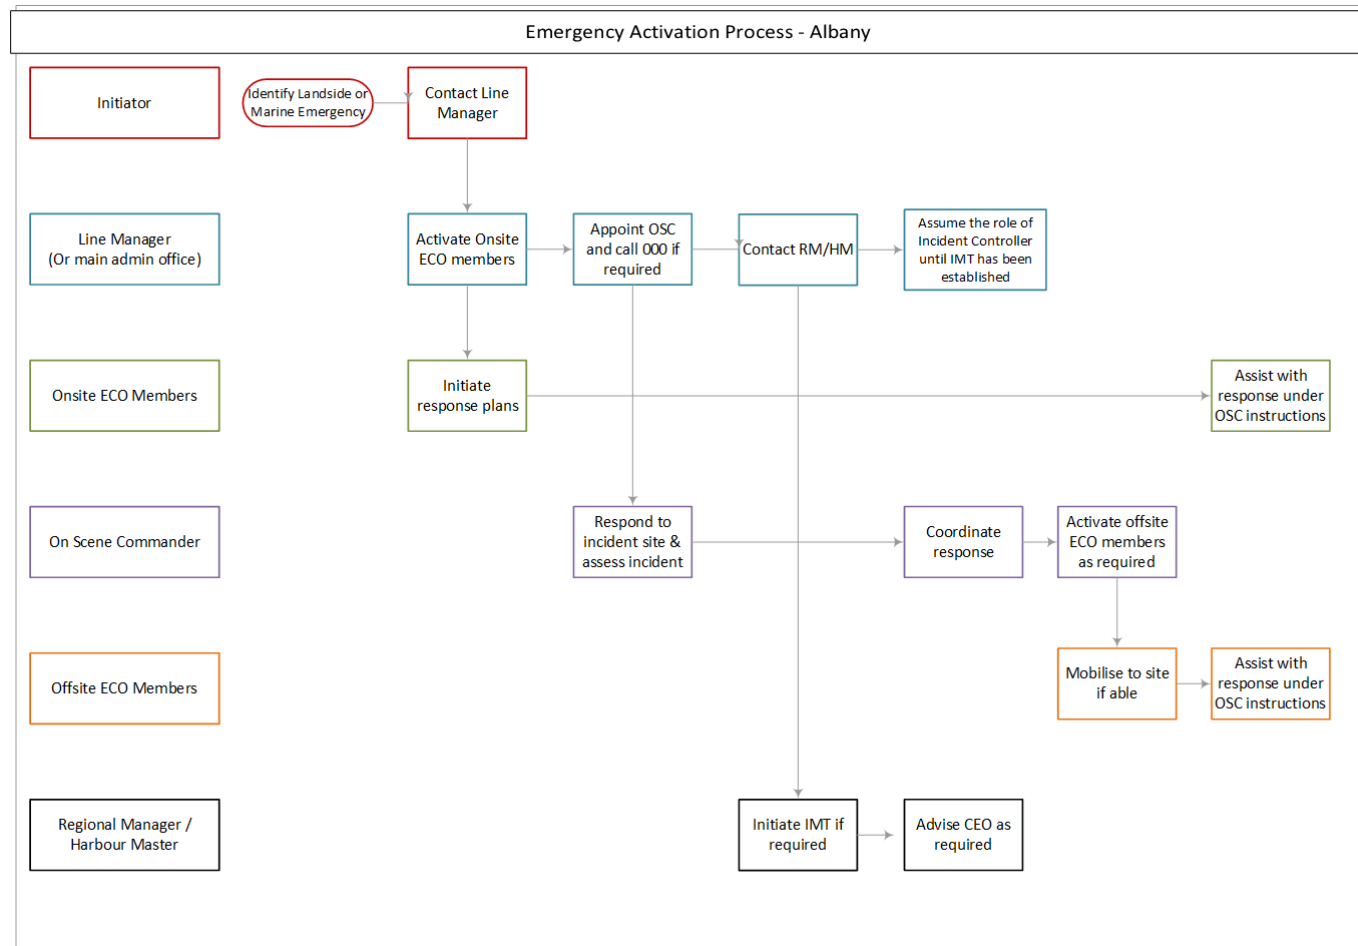

Figure 2: Emergency Activation Process
Response to an emergency is initiated via a call to the designated emergency contact phone number (08) 9892 9000. Figure 2 indicates the Emergency Activation Process for Southern Ports – Albany. The requirements for additional assistance will be determined initially by the OSC and then communicated to the Incident Controller (IC) if the IMT is activated per Southern Ports Crisis and Emergency Management Plan.